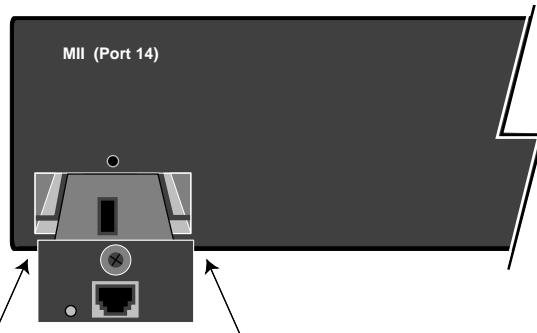

Figure 2-3     Installing an Asanté MII expansion module
**3** Slide the Asanté MII module into the expansion slot until it stops, then push the module in until it seats with the connector. See Figure 2-3.